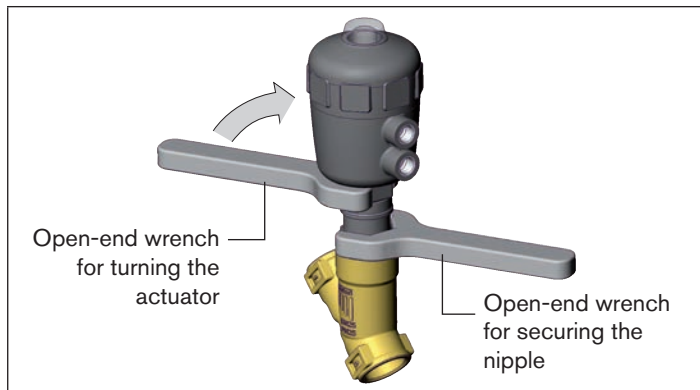

Fig. 19: Turning with open-end wrench
- Place a suitable open-end wrench on the hexagon of the actuator (see "Fig. 19").
- ▶ Turn the actuator **in the specified sense of direction** only (see "Fig. 19").